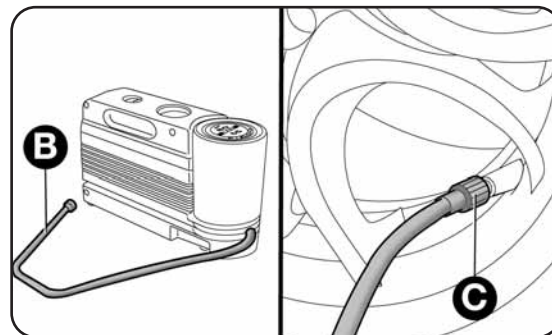

fig. 16
- Unscrew the tyre valve cap, take out the flexible filling pipe, B-fig. 16 and screw down the ring nut C on the tyre valve;